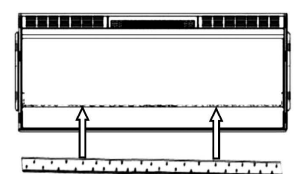

Fig. 6
4. Place the plastic tray (I) to the fireplace designed place. Then carefully place crystal or pebbles embers into the bottom tray on the front of the appliance as illustrated. Apply an even layer from side to side (see Fig. 6 and 7)